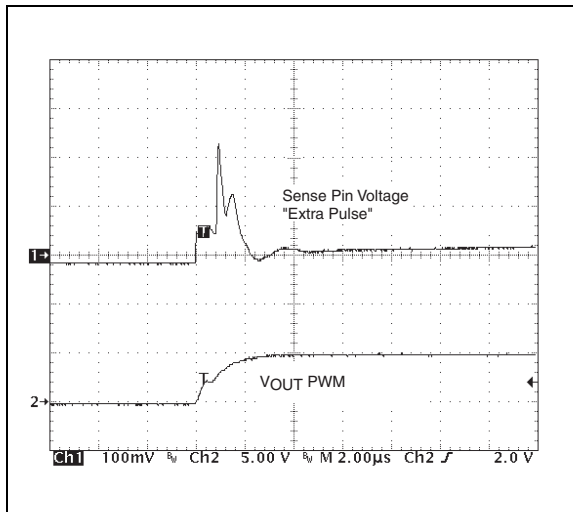

**FIGURE 7-9:** Four Current Pulses Per Revolution Fan.
**Example:** The full-speed fan RPM rating is 8200 RPM. From this, the time for one fan revolution is calculated to be 7.3 msec, using the previously discussed equation. Using a current probe, the fan current can be monitored as the fan is operating at full speed. Figure 7-9 shows the fan current pulses for this example. The 7.44 msec window, marked by the cursors, is very near the 7.3 msec calculated above, and is within the tolerance of the fan ratings. Four current pulses occur within this 7.44 msec time frame. Given this information, F2PPR (bits 4-3<01>) and F1PPR (bits 2-1<01>) in the Configuration Register, should be set to '10' to indicate 4 current pulses per revolution.
This problem occurs mainly with fans that have a current waveshape like the one shown in Figure 7-9. For configurations where an NPN transistor is being used as the external drive device, the typical  $R_{SENSE}$  and  $C_{SENSE}$  scheme can continue to be used to sense the fan current pulses. In order to eliminate the extra current pulse, a slow-down capacitor can be placed from the base of the transistor to ground. A 0.1  $\mu\text{F}$  capacitor is appropriate in most cases. This arrangement is shown in Figure 7-11. This capacitor will help to slow down the turn-on edge of the transistor and reduce the amplitude of the extra current pulse.